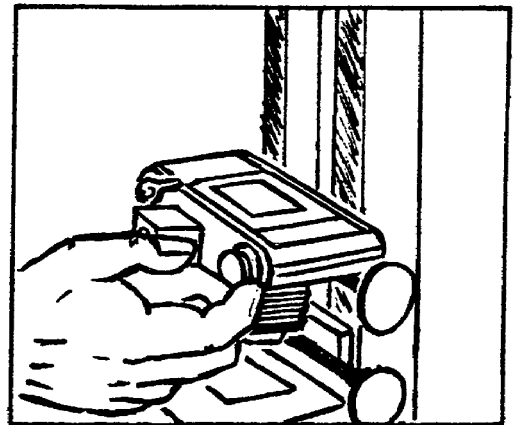

Figure 1-16. Pull Rewind Crank.
c. Pull out the rewind crank (figure 1-16). This will pull out the shaft inside the camera to make room for the film cassette.